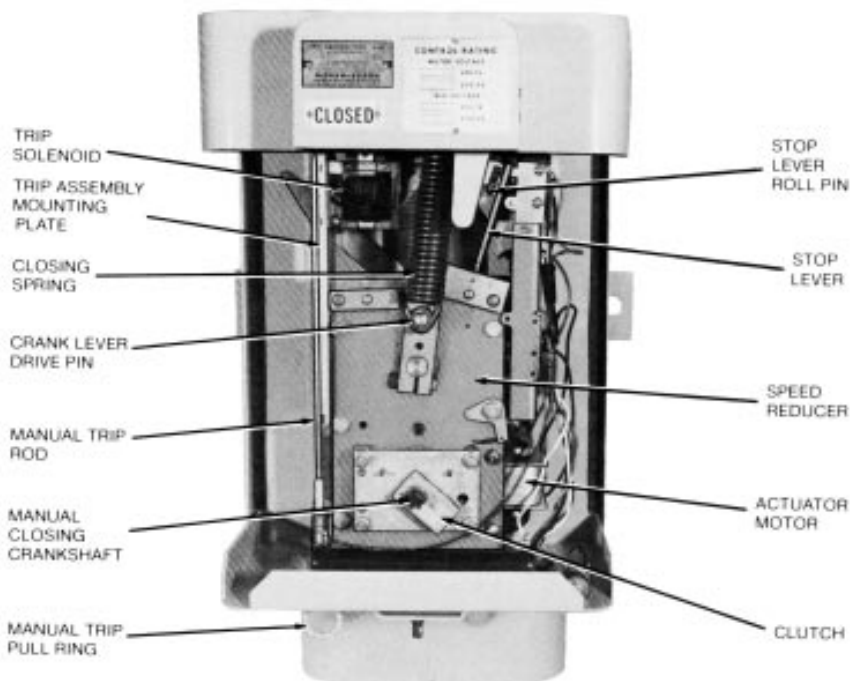

Figure 36.
Speed reducer maintenance is limited to a periodic greasing of gears with an allweather, non-freezing grease. If speed reducer must be replaced, refer to Figure 36 and proceed as follows:
9. Install new speed reducer in actuator housing. Moderately tighten hexhead screws. Be sure latch lever is positioned behind stop-lever roll pin as shown in Figure 36.